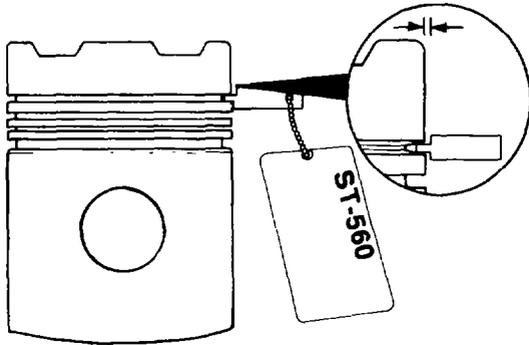

Figure 23 — Checking Piston Ring Grooves
- x. Check the top and second ring groove on each piston for wear, using ST-560. The piston is unserviceable where the shoulder of the tool touches the piston (see Fig. 23).